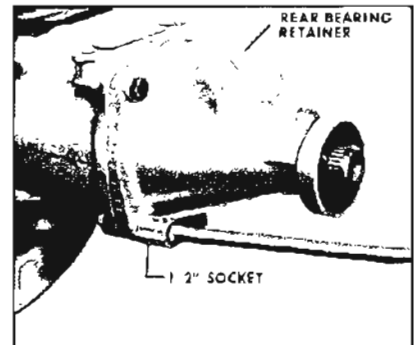

Figure 5-337.
2. Install rear bearing retainer to case and install four (4) retaining bolts, using a 9/16" socket. Torque bolts to 25-35 ft. lbs. torque. See Figure 5-337.